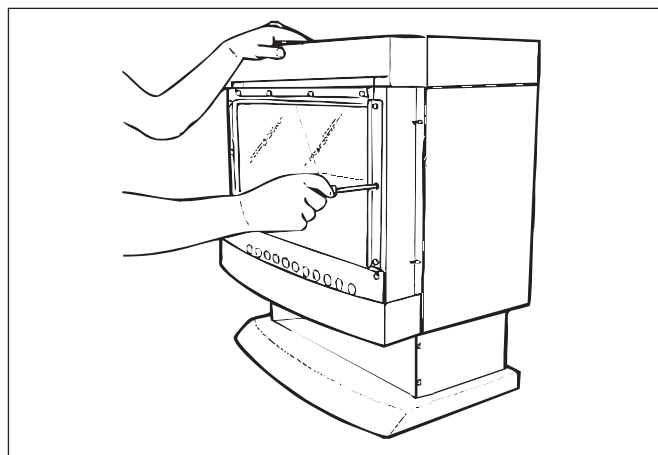

FIG 7
3. Remove the inner glass. Slacken off screws in top clamp and remove side clamps. Refer to **FIG 7**.